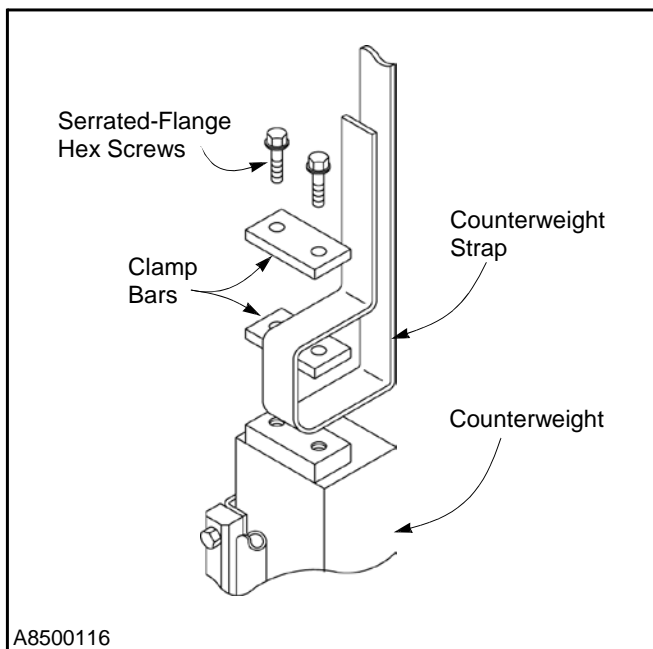

Figure 48
8. Loosen the serrated-flange hex screws to release the clamp bars that secure the strap to the counterweight. (See Figure 48)